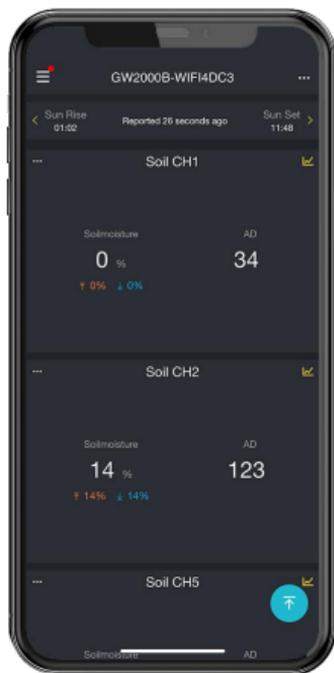

Figure 31: Data on Ecovitt APP
- Monitor live sensor data on the Live Data page of the Ecowitt app (requires the gateway and your phone is using the same Wi-Fi network), like the Figure 31.